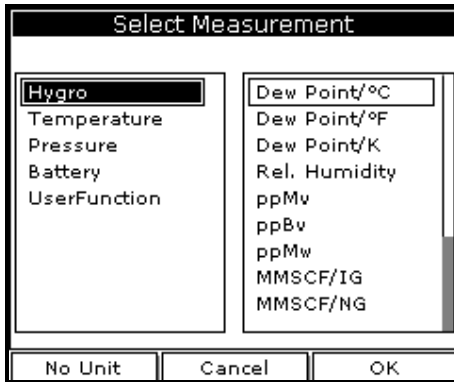

Figure 7: Select Measurement Window
2. Use the arrow keys to scroll to Measurement and press [ENTER]. The screen appears similar to Figure 7. The left column displays the five measurement types and the right column displays the measurement units.